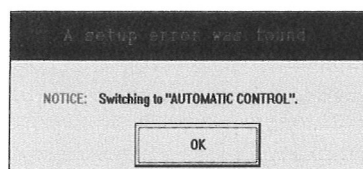

Fig.38
- ① After filling in all the fields for setup and Clicking on "SETUP", if any error is found in settings, an error box as shown in Fig. 38 appears. Click on "OK" button.